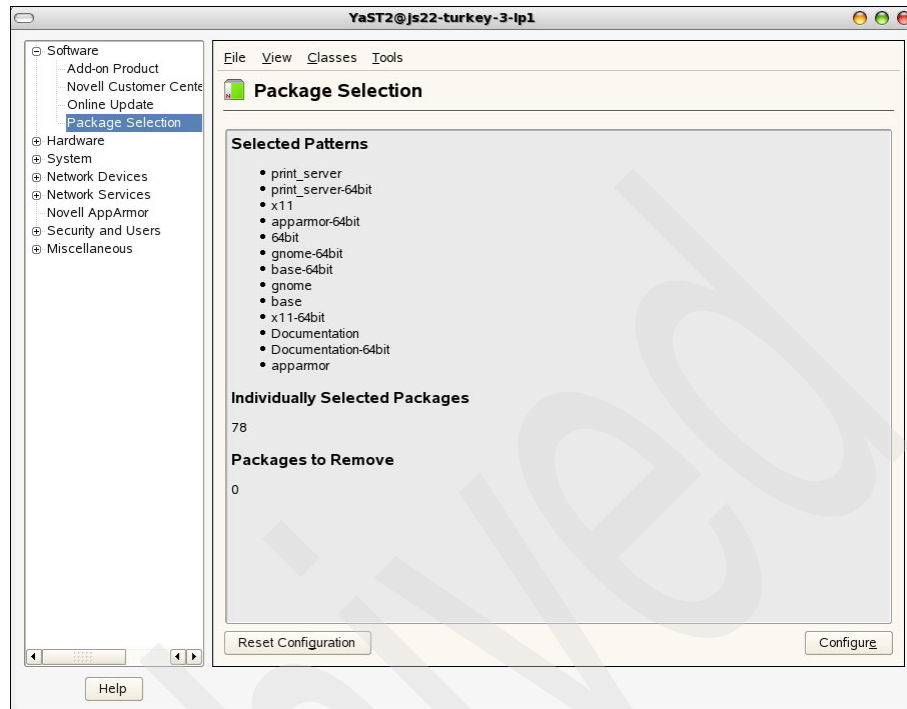

Figure C-7 AutoYaST software selection
- a. **Software** - Options to select and configure the Online Update and Package Selection sections. Figure C-7 on page 438 shows the **Software** → **Package Selection** window. We chose the minimum software configuration to save time during installation.